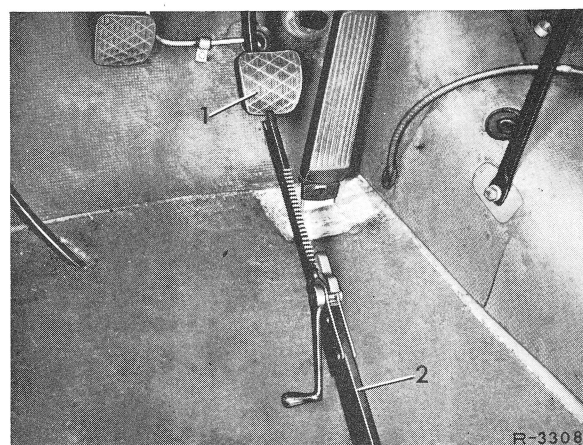

Fig. 2
3 Depress brake pedal (1) with brake pedal winch (2) until the highest possible line pressure (between 50 and 90 atü) is obtained, then lock brake pedal in this position (Fig. 2).